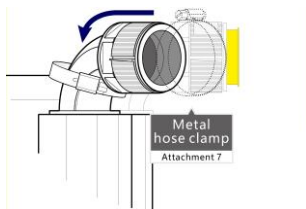

Fig 5.2.1
▶ Hang the metal hose clamp on the elbow for back up. (Fig 5.2.1)